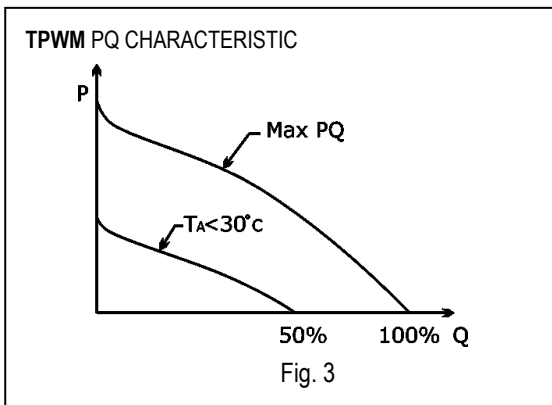

Fig. 3
- **TPWM:** by the automatic resistance change of **NTC** thermistor which is affected by its ambient temperature (the higher the temperature, the higher the fan motor's speed). The NTC thermistor maybe inside the fan motor or located at the task area. (See Fig 3)